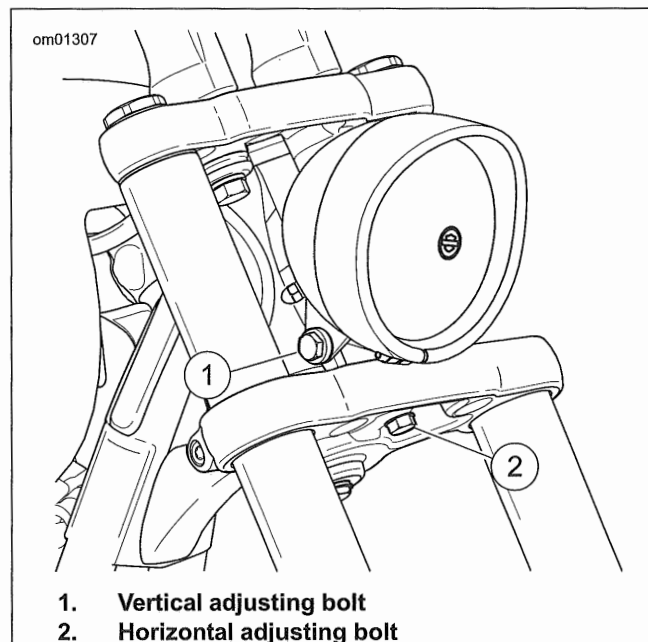

Figure 7-53. Headlamp Adjustment
1. **All except FLSE and FLSE:** See Figure 7-53. Loosen horizontal adjustment screw (2). Adjust headlamp horizontally to direct light beam straight ahead.